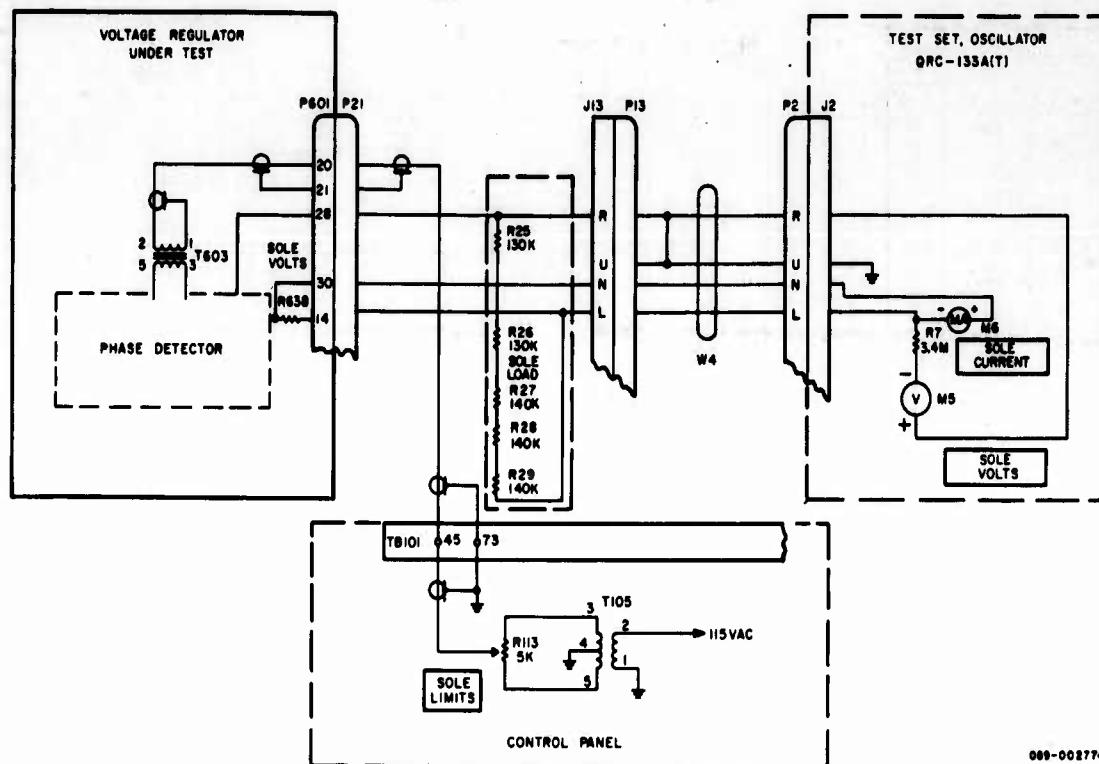

Figure 1-29. Sole Limits Test Circuit.
1-100. SOLE LIMITS TEST. Figure 1-29 is a simplified schematic diagram of the circuit used for testing the limits of the sole regulator. Transformer T105 and SOLE LIMITS resistor RL13 simulate the chopper circuit in the frequency control module of the Barrage Jammer QRC-133A(T) system. By adjusting RL13 through its limits, a 14-volt, 400-cycle signal is continuously varied in amplitude through 0 back to 14 volts while undergoing a 180° total phase change. This variable amplitude and variable phase signal is applied through P21 to the primary of transformer T603 located in the voltage regulator under test. Transformer T603 couples the AC signal to the phase detector which, in turn, varies the bias on V603. The bias on V603